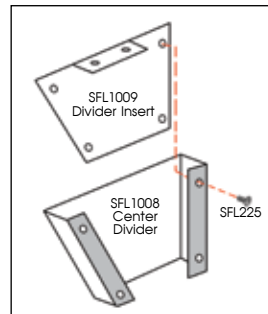

FIGURE 1
1. Assemble divider insert to center divider with four 6-32 x 1/4" pan head screws (Fig. 1).